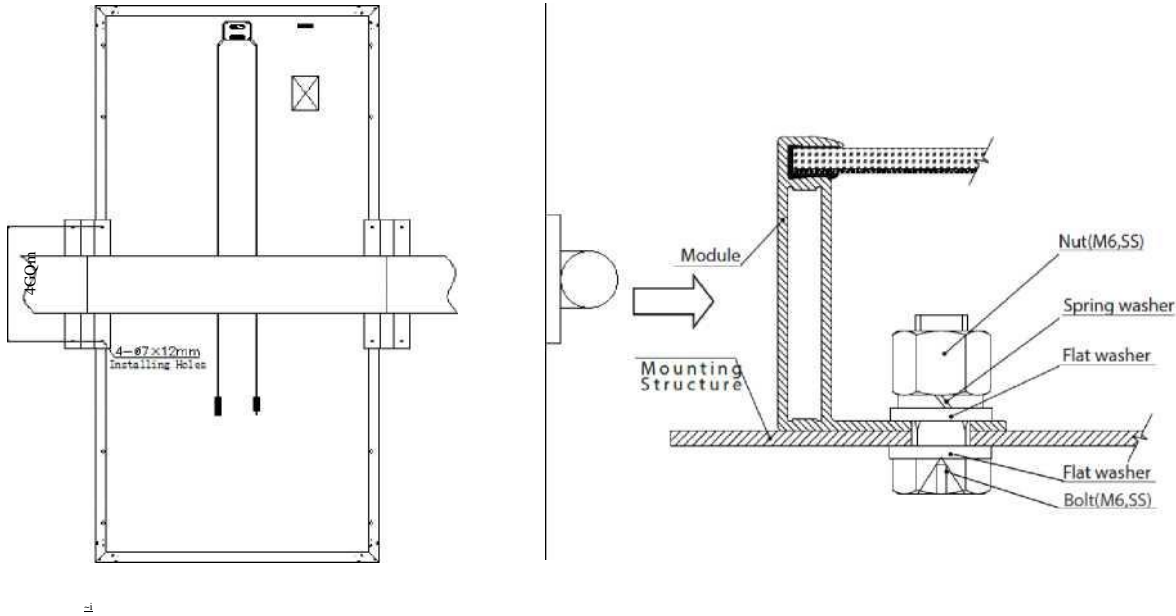

Figure 5
3. The frame of each module has 4-97*12mm mounting holes with specific location shown in Figure 5.